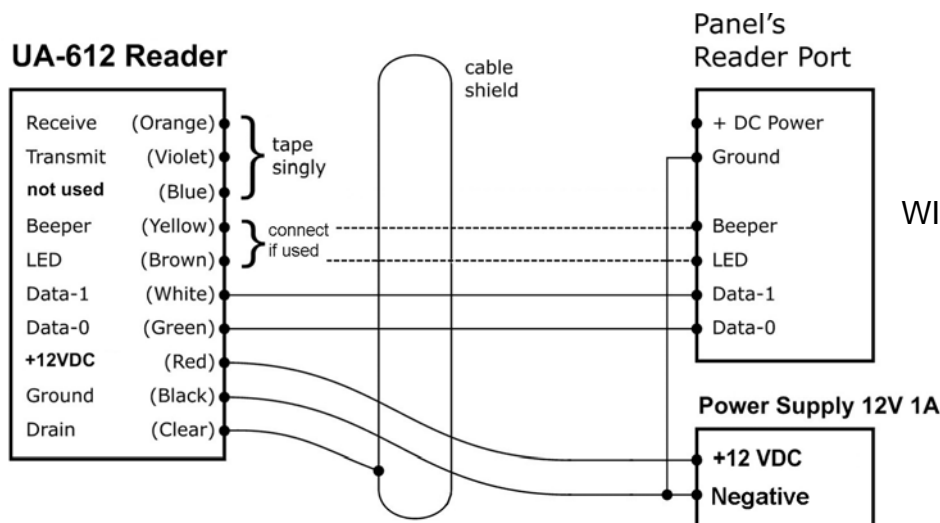

FIGURE 2: WIRING DIAGRAM (WIEGAND)
5. Prepare the cable to the system's panel and power (see Figure 2). (See "Product Specifications", below, for the number of cable conductors.) Power and data may share the same shielded cable, or use separate shielded cables. Use the *black* and *red* wires for the power supply. Use the *black* wire also for the panel's common or negative or ground terminal. For Wiegand data, use the *green* wire for Data-0, and the *white* wire for Data-1. Connect the reader's bare *drain* wire to the cable's shield or drain wire; do not ground the shield anywhere – let it float. Connect the reader's *brown* wire if used for LED control, and the *yellow* wire if used for beeper control. Do not connect the *orange*, *blue* and *violet* wires; tape or cap them separate.